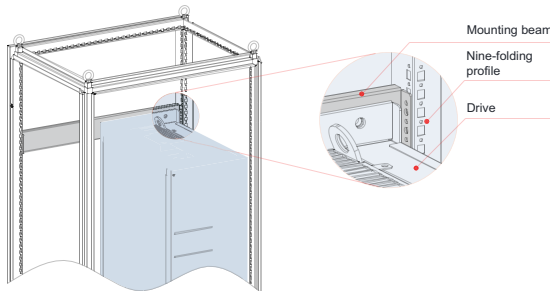

Figure 3-16 3D view of a 200-450 kW cabinet
- 2) When a drive of CS710-4T200G(-L) to CS710-4T450G(-L) is mounted in a 600-mm deep nine-folding AL cabinet, the fixing beam must fold inwards to leave more space for the drive, as shown in Figure 3-16. This is not required when the drive is mounted in an 800-mm or deeper cabinet.